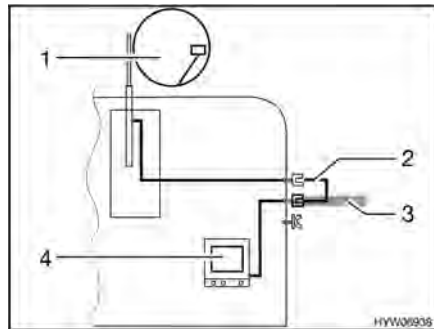

Fig. 108 TV inside the vehicle
- TV inside the vehicle (Fig. 108,4): Connection to roof antenna (Fig. 108,1) with connection cable (Fig. 108,2)
- TV inside the vehicle (Fig. 108,4): Connection to external antenna (Fig. 108,3)